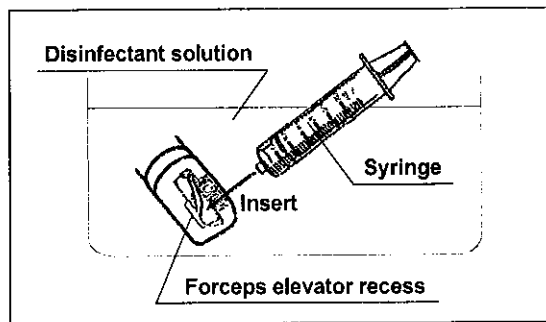

Figure 5.33
3. Move the syringe to the air/water channel port of the injection tube and forcefully flush the air/water channel with 180 ml of the disinfectant solution. Confirm that no air bubbles exit the distal end during the sixth flush. If air bubbles still exit, flush the channel with the disinfectant solution until no air bubbles exit. (See Figure 5.33)